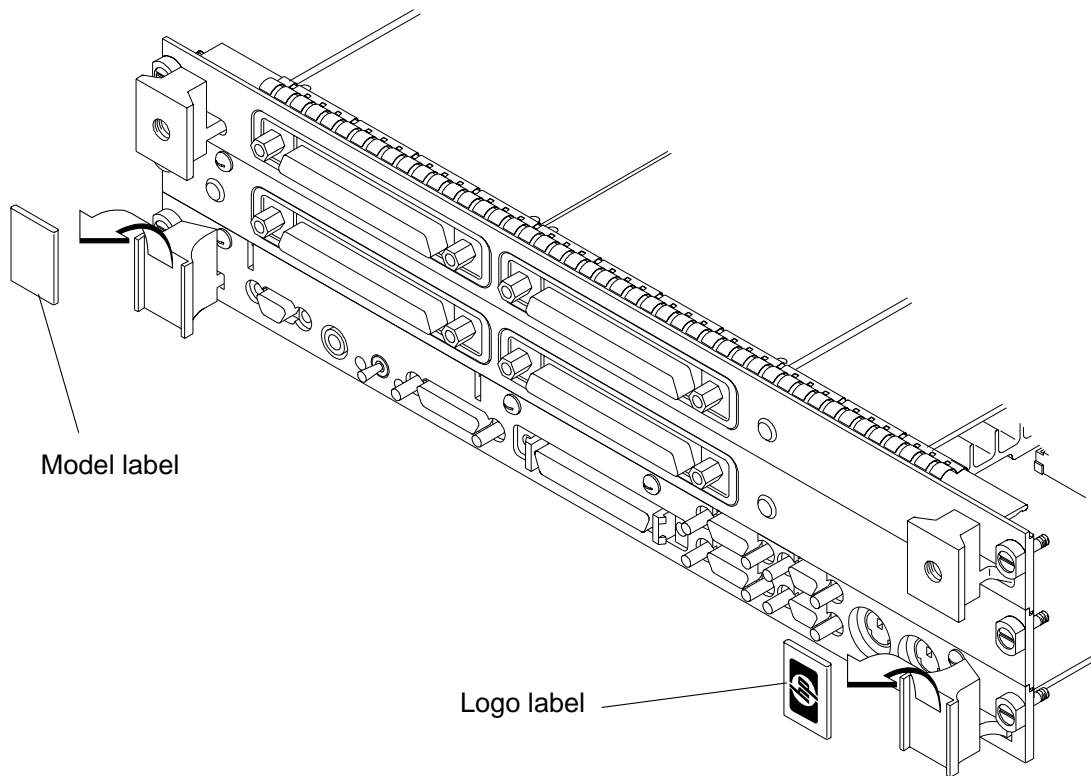

Figure 2-12 **Removing Ejector Handle Labels**
- a** Remove the logo and model labels from the ejector handles on your board computer, as shown in Figure 2-12.